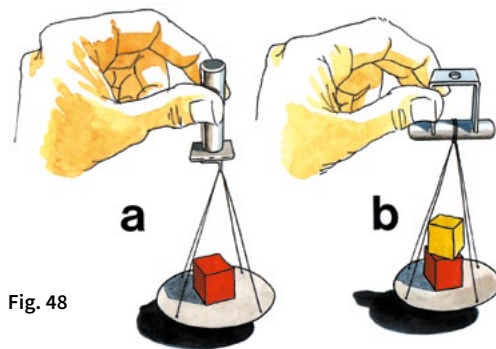

Fig. 48
1. In addition to a magnet you will need an armature as well as a cardboard cup, made according to fig. 48 and tied with a piece of thin thread to the armature. Lift the armature and the cup by means of a magnet then keep loading the cup with various articles from the set as long as the magnet is strong enough to attract the burdened armature.
2. According to fig. 48, combine the magnet with a core sleeve from the set and burden it with the armature as well as the cardboard cup, as described in the preceding experiment. What is the strength of the magnet now? Although the magnet is the same, its strength has increased. Now both magnetic poles are involved, whereas in the former experiment only one was.